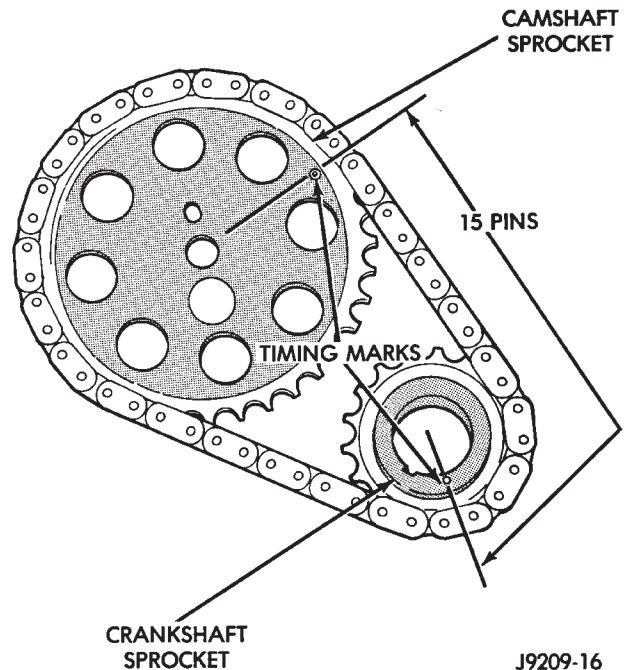

Fig. 43 Verify Sprocket—Chain Installation—Typical
Assemble the timing chain, crankshaft sprocket and camshaft sprocket with the timing marks aligned (Fig. 43).
(3) To verify correct installation of the timing chain, turn the crankshaft to position the camshaft sprocket timing mark as shown in (Fig. 43). Count the number of chain pins between the timing marks of both sprockets. There must be 15 pins.